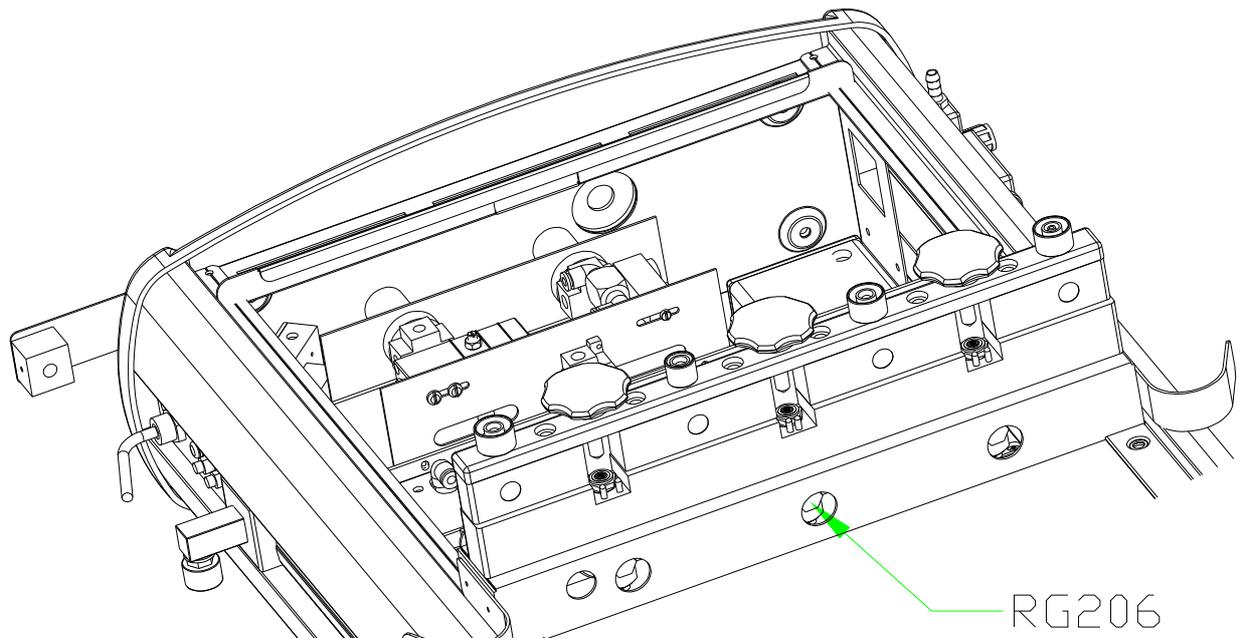

Figure 9: Removal of RG206 bolt
- a. Unscrew RG206 bolt from the bottom of the console by using a 5/8" socket (Figure 9).